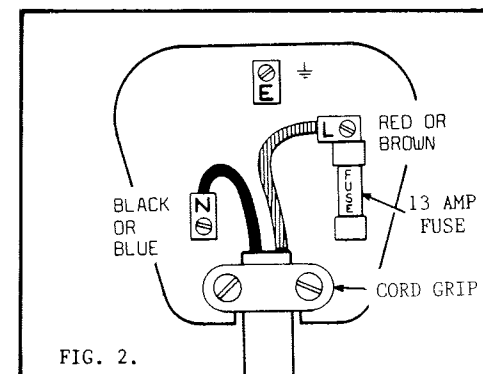

FIG. 2.
It is IMPORTANT that the plug be connected as shown in Fig.2 and is fitted with a 13A fuse.
- 2) Is the plug connected correctly to mower supply cable? Check with reference to Fig.2.